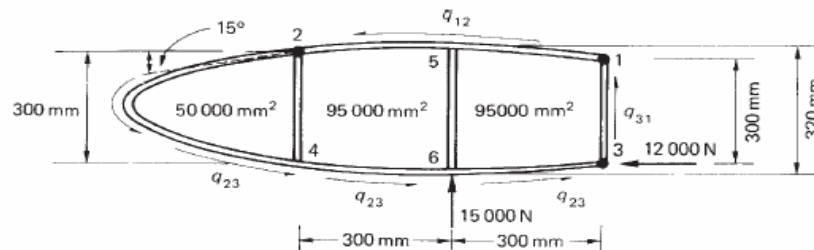

Figure.6
- 8 Calculate the shear flows in the web panels and the axial loads in the flanges of the wing rib shown in Figure.6. Assume that the web of the rib is effective only in shear while the resistance of the wing to bending moments is provided entirely by the three flanges 1, 2 and 3. [15M]